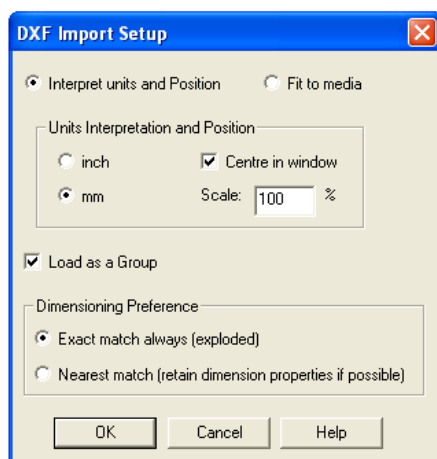

Figure 7
The DXF Import setup window will open (Figure 7).
- It is important that the settings are selected as show in Figure 7, particularly that the Units are set to mm.